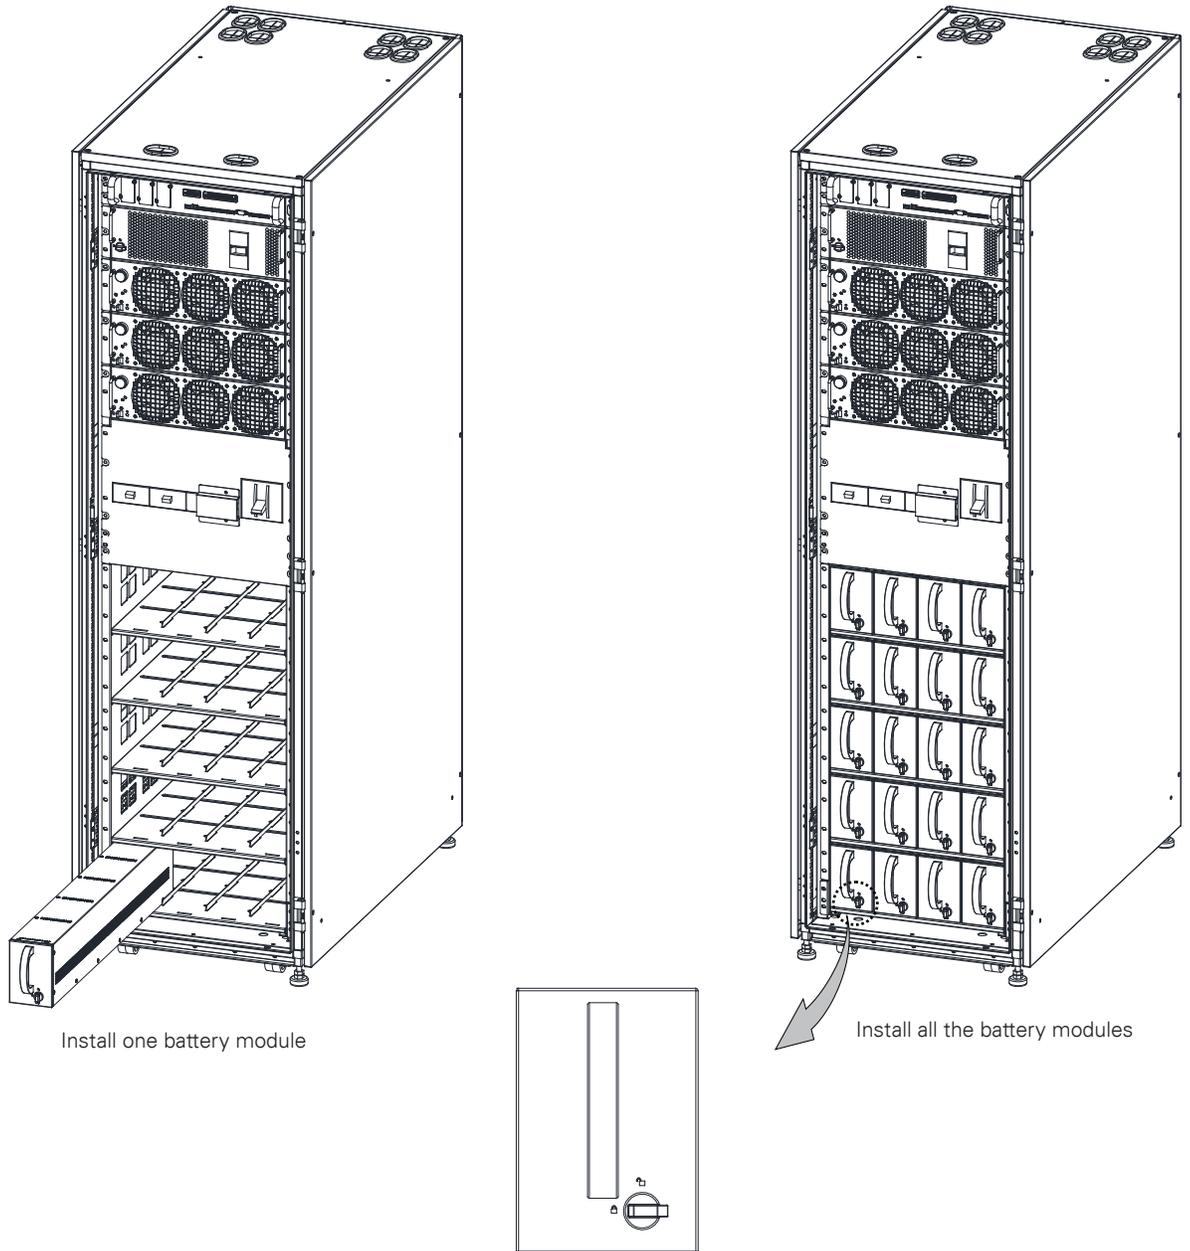

Figure 4-5: Install the Battery Module
3. install the battery modules into UPS, see Fig4-5.